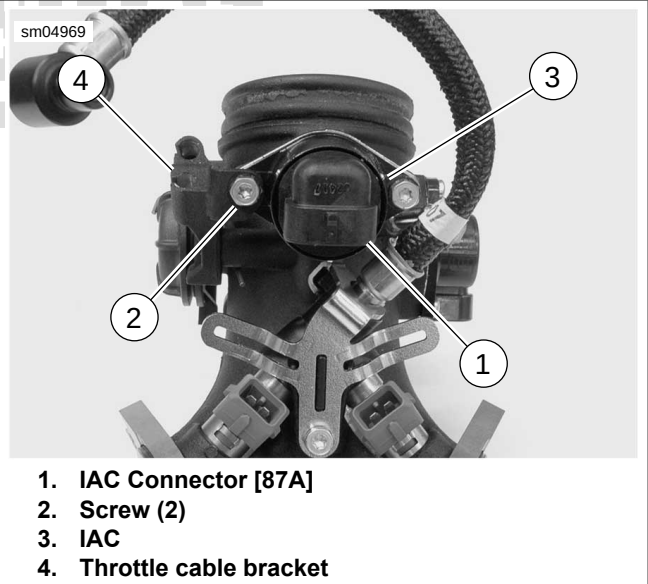

Figure 4-54. IAC Removal/Installation: XR 1200X
3. See Figure 4-54. Unplug harness connector [87B] from IAC connector [87A] (1).
- a. See Figure 4-54. Apply a drop of LOCTITE 243 MEDIUM STRENGTH THREADLOCKER AND SEALANT (blue) to the threads of each screw (2).
- b. See Figure 4-54. Install two screws (2).
8. Plug harness connector [87B] into IAC connector [87A] (1).